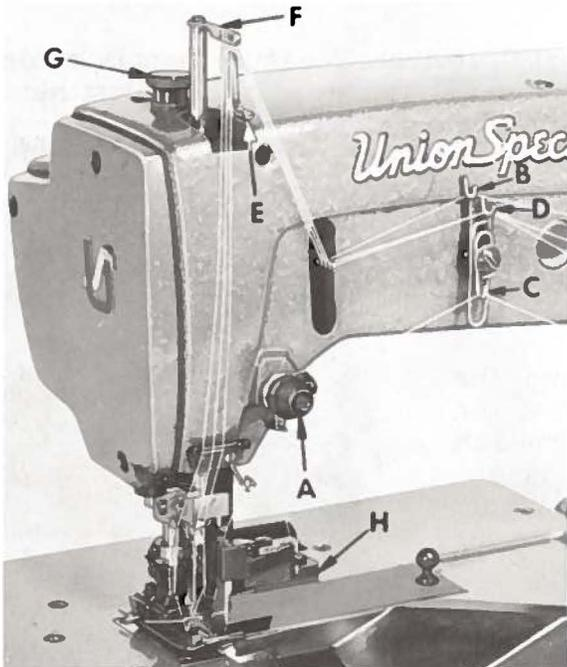

Fig. 13
The spreader thread tension is applied at tension nut (A, Fig. 13). The adjusting nut should be set so that the tension on the spreader thread is $\frac{1}{2}$ ounce or more, depending on the type of thread being used.
Set the 401 stitch needle thread frame eyelet (B, Fig. 13) 1 inch above, and the spreader thread frame eyelet (C), $\frac{1}{2}$ inch below the center of the mounting screw. Set the 602 stitch needle thread frame eyelet (D) as high as possible without drawing thread on the downstroke.
Set the needle thread take-up wire (E, Fig. 13) located adjacent to the needle bar thread eyelet (F) so that its upper surface is even with the top of the holes in the needle bar thread eyelet, when the needle bar has
Regulate the presser spring regulating screw (G, Fig. 13) so that it exerts only enough pressure on the presser foot to feed the work uniformly when a slight tension is placed on the fabric. This is the knurled screw, located directly behind the needle bar in the head of the machine. Turning it clockwise increases the pressure, counterclockwise acts the reverse.
NOTE: Upper knife lever thrust bracket (H, Fig. 13) should bear against upper knife lever.